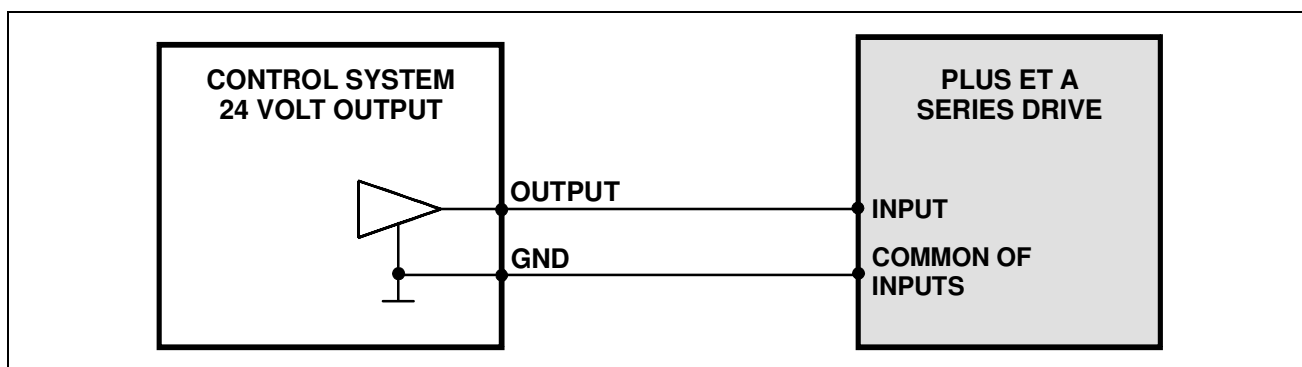

Fig. 11 - Connection example with control system with 24 Volt TOTEM-POLE (PUSH-PULL) output.
- Connect earth line to motor chassis. To reduce the radio-frequency emissions, the mechanical connection of motor to machine chassis (by means of mounting flanges and screws), is typically simple and effective solution. In this case, both screws and chassis must be of conductor material and the chassis must be connected to earth. See fig. 11.